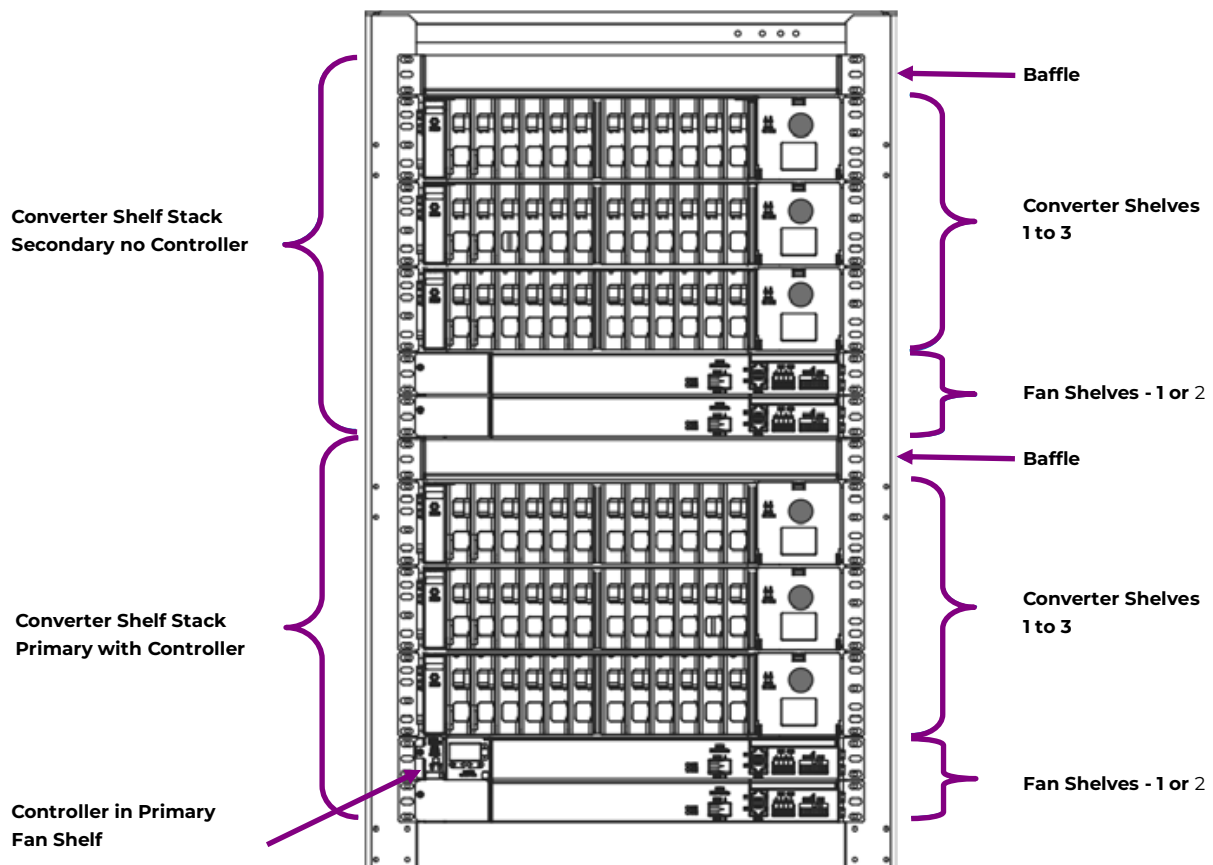

Figure 2 Configuration
1. Determine arrangement of each Converter Shelf Stack - **Figure 2**.